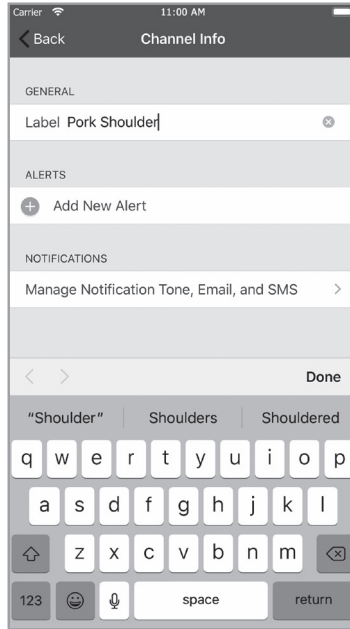

FIG 29
- The names of the two probe ports can be set according to what you're cooking. Tapping on the probe port in the grey banner will allow you to change its name (**FIG 29**). This name will also be used in the various charts throughout the app.
- An alert – in the form of an app alert, an SMS text message, or an email – can be set to let you know when one of the meat probes are at a certain temp. Simply tap on the temperature shown for the probe in the gray banner, tapping "Add New Alert," then "Set-up Alert" and set up your parameters (**FIG 29, 30**).